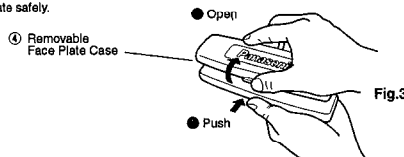

Fig. 3
- ④ As shown in Fig. 3, gently push the lower side of the case and open its cover. Keep the removable face plate in the case. Then, you can bring the plate safely.
- Remove the unit pulling with both hands. (Fig. 3)